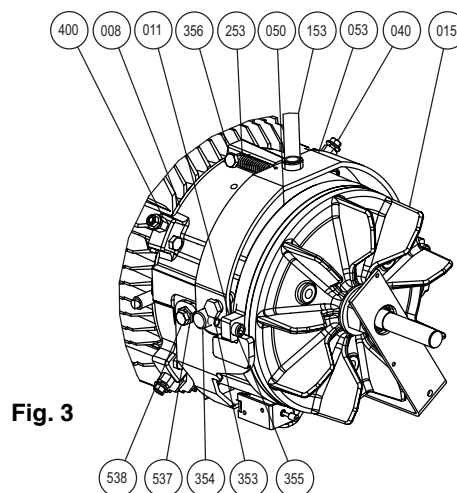

Fig. 3
3.4 - Replacing the hand brake release (fig.3)